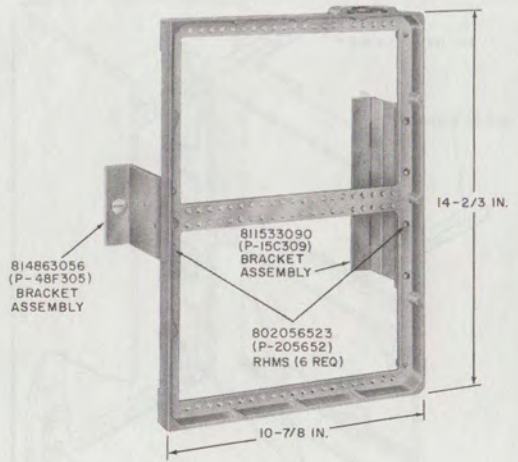

Fig. 9—31B Apparatus Mounting
3.06 The 31B apparatus mounting (Fig. 9) is a die-cast aluminum hinged framework comparable to the 31A (MD) apparatus mounting. Primarily used to mount panel-type 200-series KTUs, the 31B apparatus mounting is designed for use with the 177A backboard and can be arranged to open either to left or right. The unit can be protected with a 116A cover. The 814863056 (P-48F305) and 811533090 (P-15C309) bracket assemblies and associated fasteners must be ordered separately. (The 814863056 contains a Simmons fastener oval head stud No. 5.)